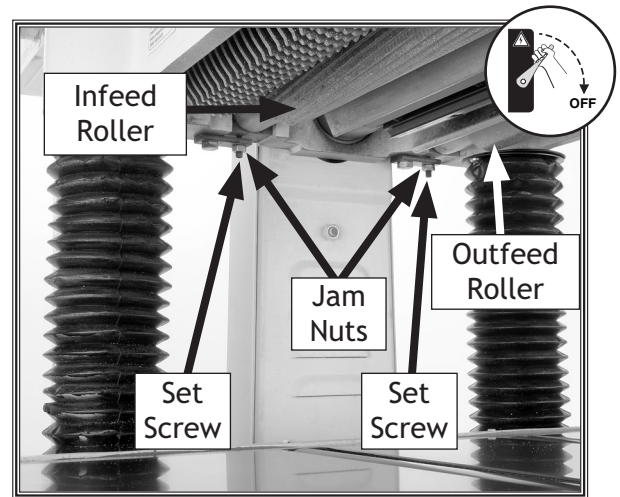
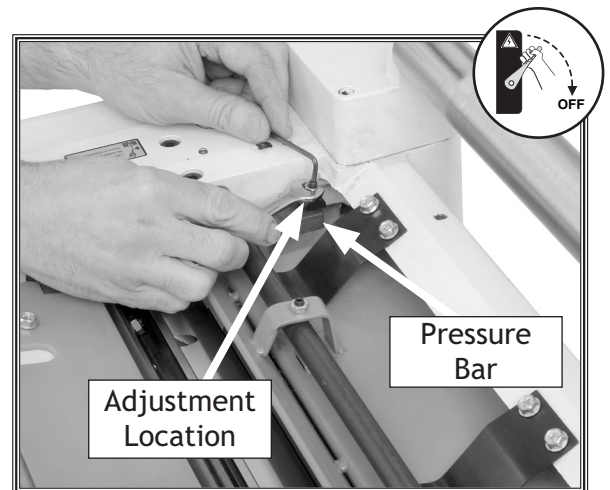
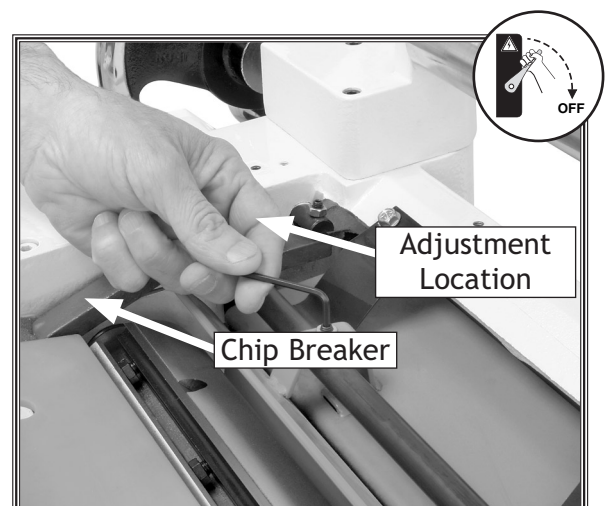

Figure 27. Roller height adjustment controls.
Figure 28. Pressure bar height adjustment controls.
Figure 29. Adjusting chip breaker height.
7. Adjust the height of the infeed roller on the same side as the Rotacator to the specification given at the beginning of this procedure, using the zero setting of the Rotacator as a reference point. **Figure 27** shows the jam nut and set screw for adjusting the roller height.
10. Using the same zeroed reference on the Rotacator, adjust the height of the outfeed roller, pressure bar, and chip breaker to their given specifications. The adjustment controls for each are shown in **Figures 27, 28, and 29**.
10. Without moving the table, adjust the chip breaker (**Figure 29**), pressure bar (**Figure 28**), and outfeed roller (**Figure 27**) in the same manner, using the wood blocks as your reference point.